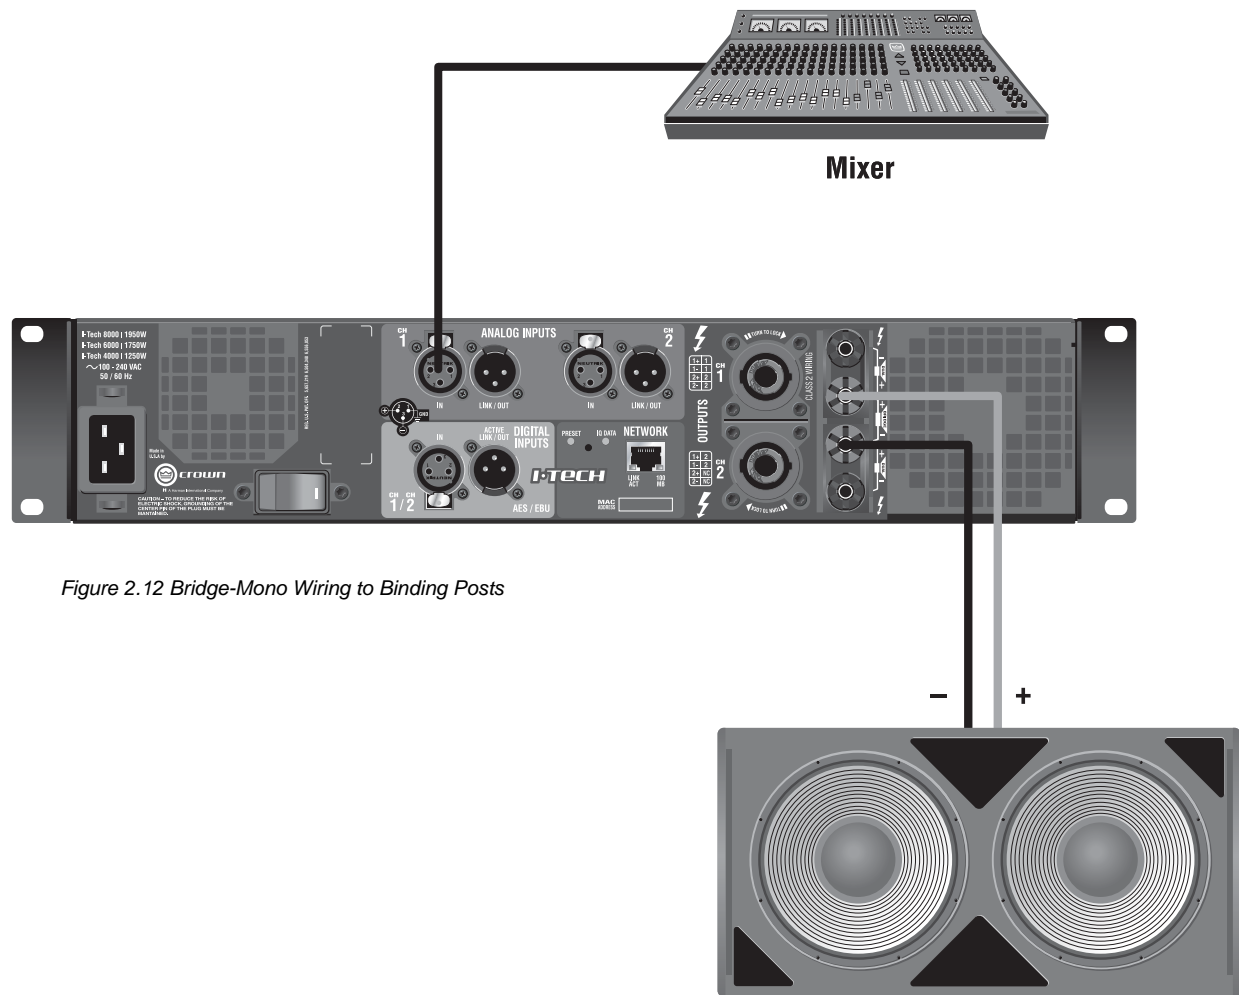

Figure 2.12 Bridge-Mono Wiring to Binding Posts
INPUTS: There are three ways to connect an input signal to the amplifier (Figure 2.12):
- 1) Wire the speaker across the red binding post of each channel (Figure 2.12). Do not use the black binding posts when operating in Bridge-Mono mode.